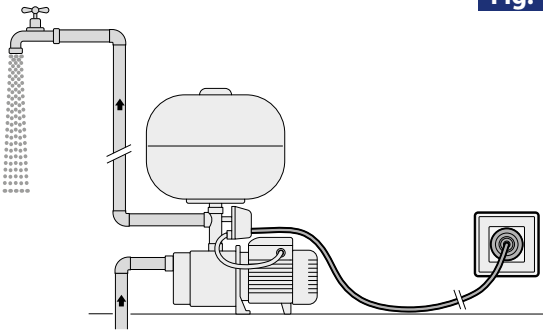

Fig. 2
- Disconnect the plug of the power cable of the pump from the power outlet leaving the delivery point open and fully discharge the system (**Fig. 2**).